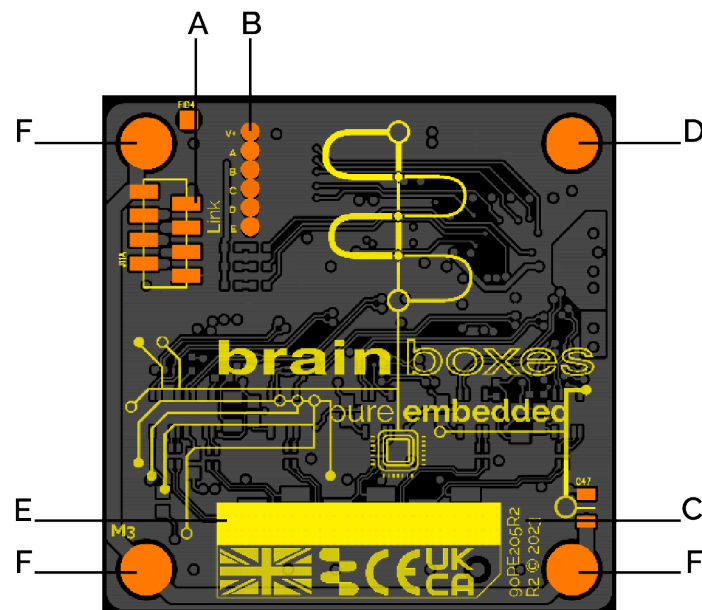

Figure 7, Device Markings Outline
The 4 x M3 mounting holes are Connected to Functional Earth (FE) or Ground (GND) and labelled accordingly. (See Section 10.1 Figure 7) If the device does not share a common ground with the rest of the system it is recommended to use a nonconductive standoff or isolated mounting point.